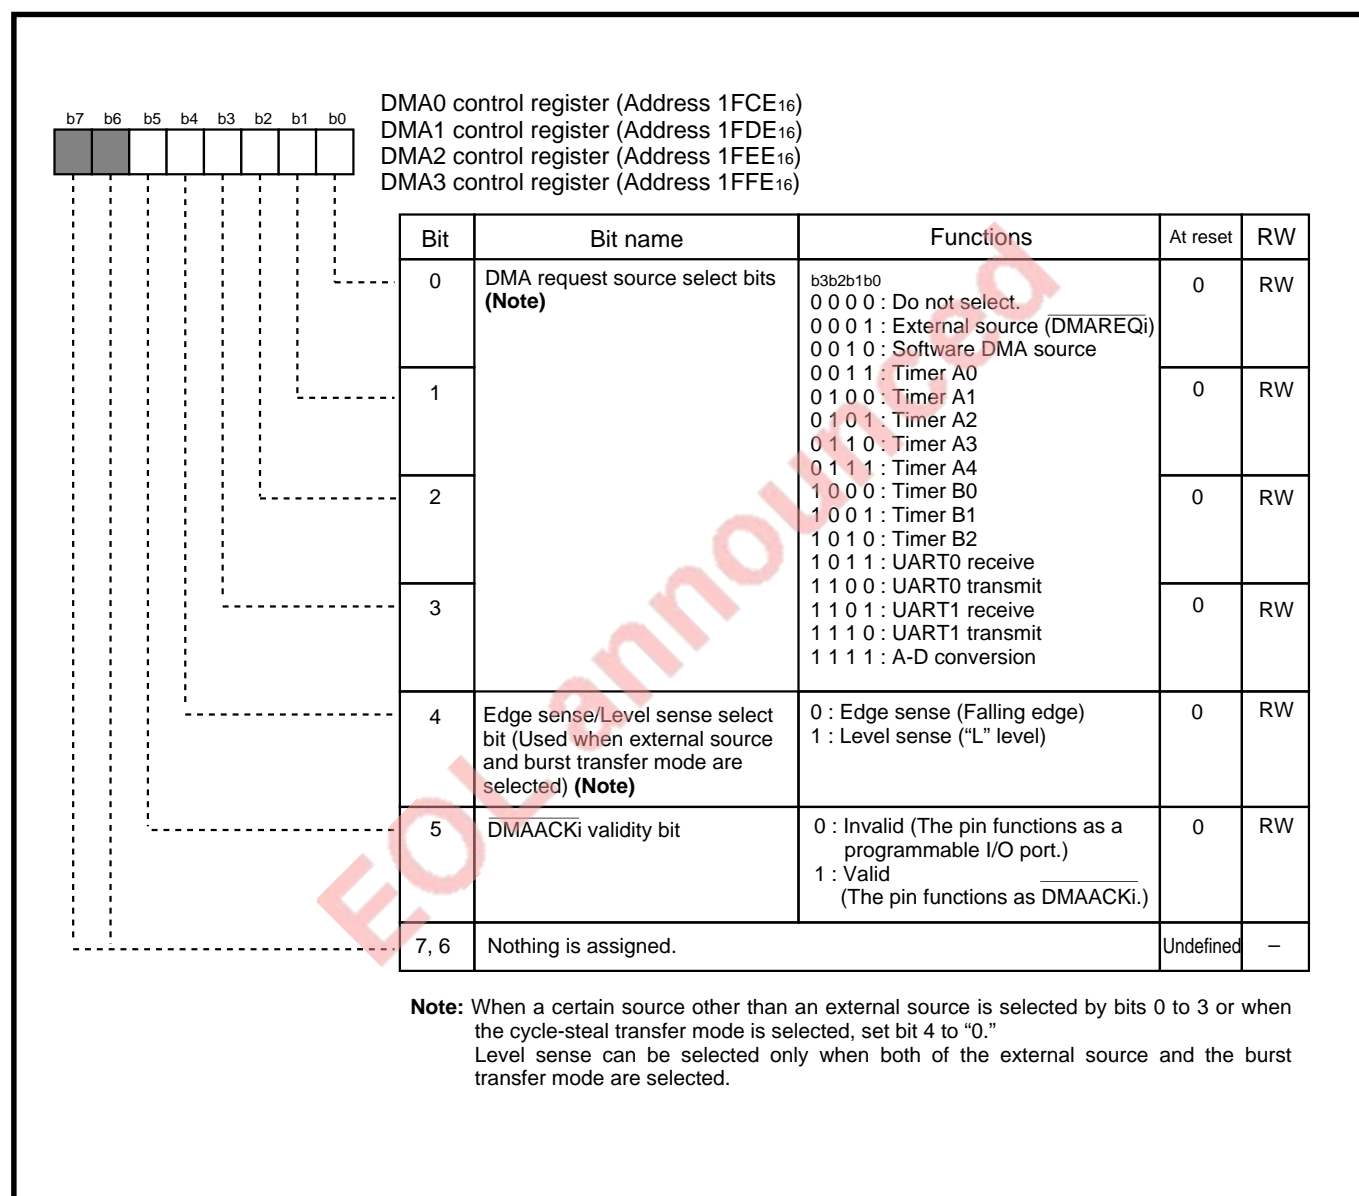

Fig. 13.2.8 Structure of DMAi control register
Figure 13.2.8 shows the structure of the DMAi control register. For bits 0–4, refer to section “13.3.2 (1) DMA request sources.”
DMA request sources are specified by the DMA request source select bits and the edge sense/level sense select bit. (Refer to “**Figure 13.2.8.**”)